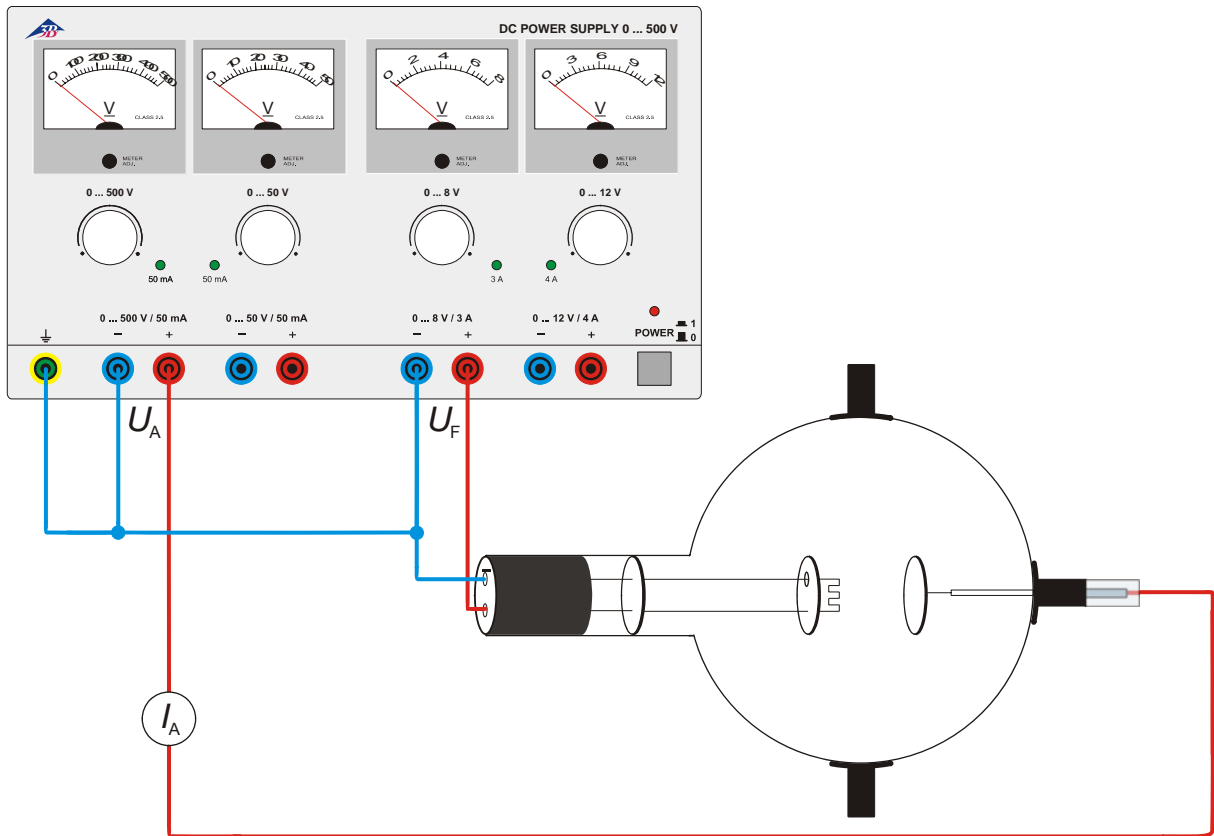

Fig. 1 Determining dependency of anode current on filament voltage. Anode current confirmed using a meter
- Set up the circuit as in Fig. 1. Connect the minus-pole of the anode voltage to the 4-mm socket marked with a minus.